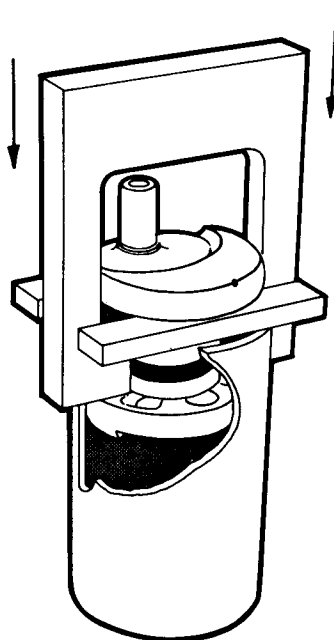

Fig. 17
- (d) Put complete assembly under a press. Press down the horseshoe piece thus removing the lower flywheel and splitting the centre assembly (*Figure 17*).